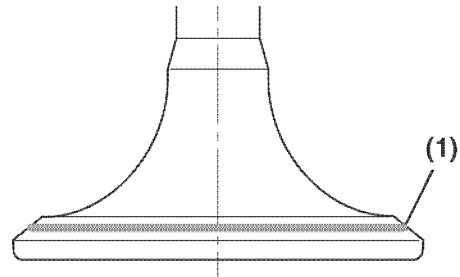

Figure. 6-6
Coat the valve seat with a thin coat of bluing compound. Install the valve and rotate it to distribute bluing onto the valve face. The contact pattern should be centered on the valve face (**Figure 6-6, (1)**) and even in width.